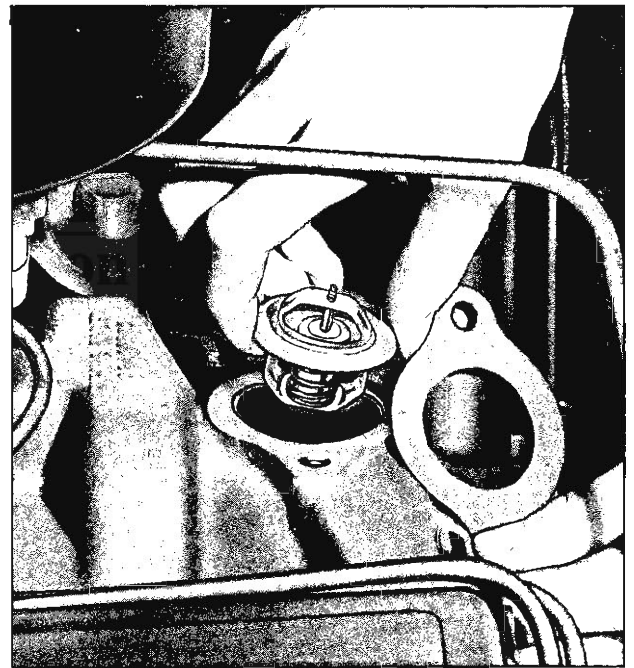

Fig. 192—Removing Thermostat, V-8 Engines
2. Remove water outlet housing bolts on V-8 engines and remove water outlet, gasket and thermostat (fig. 192). On 6 cylinder engines remove thermostat housing bolts and remove water outlet and gasket thermostat from thermostat housing.